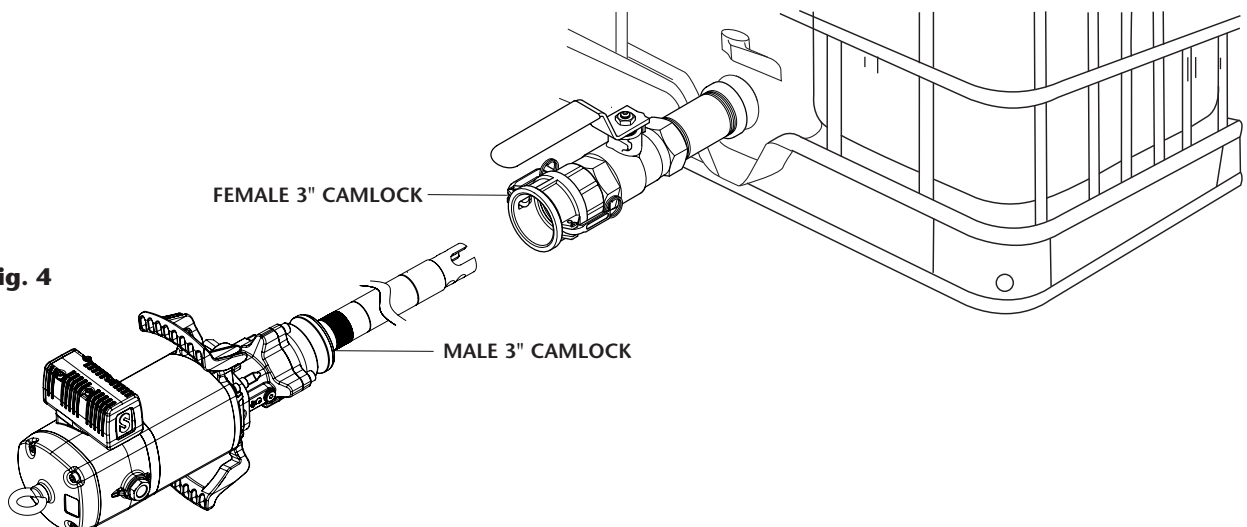

Fig. 4
- **c.** Horizontal mounting to a bulk container (531730, 531731 pumps). These pumps have the male part of a 3" camlock which would connect to the female part installed in the container (fig. 4).
Fig. 4 is a typical installation shown with all the recommended accessories for the pump to operate correctly.